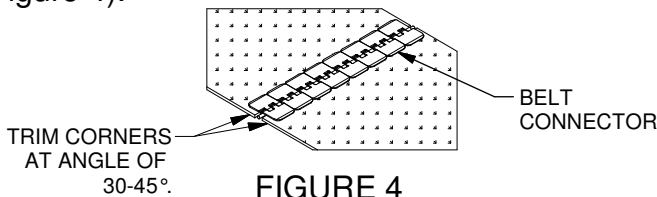

FIGURE 4
- Feed the belt back through the tube structure. Pull it with the cable or rope until it comes out from the Intake, then join the two ends together using the Belt Connectors pn# 5920 (Figure 4).